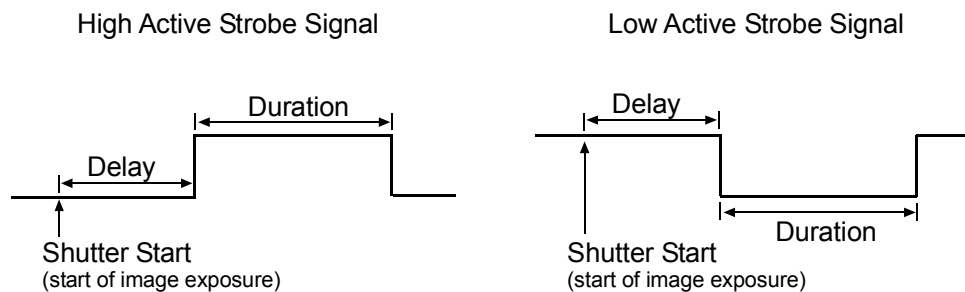

Figure 3-12: Strobe Signal
- Set the Delay_Value field. The setting in this field will determine the time between the start of image exposure and when the strobe signal changes state as shown in Figure 3-12.
- Set the Duration_Value field. The setting in this field will determine the duration of the strobe signal as shown in Figure 3-12.